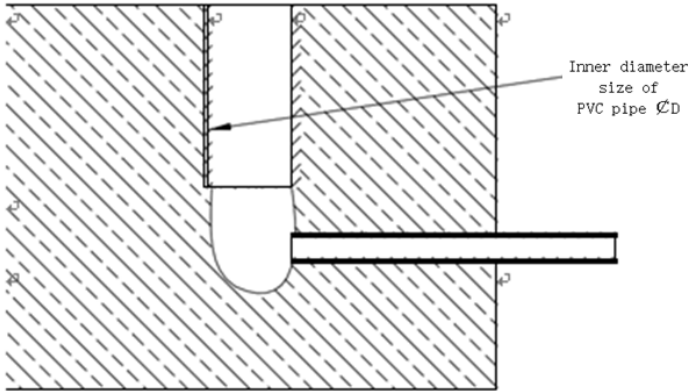

Figure 3
- Embed a 120mm long PVC pipe in the installation position of the lamp and fix it with concrete (Figure 3). The dimensions of the PVC pipe refer to Table 2;